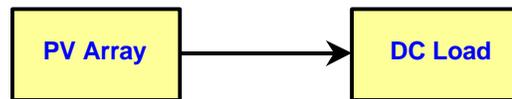

Figure 7. Direct-coupled PV system.
| FIGURE 7. DIRECT-COUPLED PV SYSTEM | 8 |
A. The simplest type of stand-alone PV system is a *direct-coupled system*, where the DC output of a PV module or array is directly connected to a DC load (Figure 7). Since there is no electrical energy storage (batteries) in direct-coupled systems, the load only operates during sunlight hours, making these designs suitable for common applications such as ventilation fans, water pumps, and small circulation pumps for solar thermal water heating systems. Matching the impedance of the electrical load to the maximum power output of the PV array is a critical part of designing well-performing direct-coupled system. For certain loads such as positive-displacement water pumps, a type of electronic DC-DC converter, called a *maximum power point tracker (MPPT)* is used between the array and load to help better utilize the available array maximum power output.